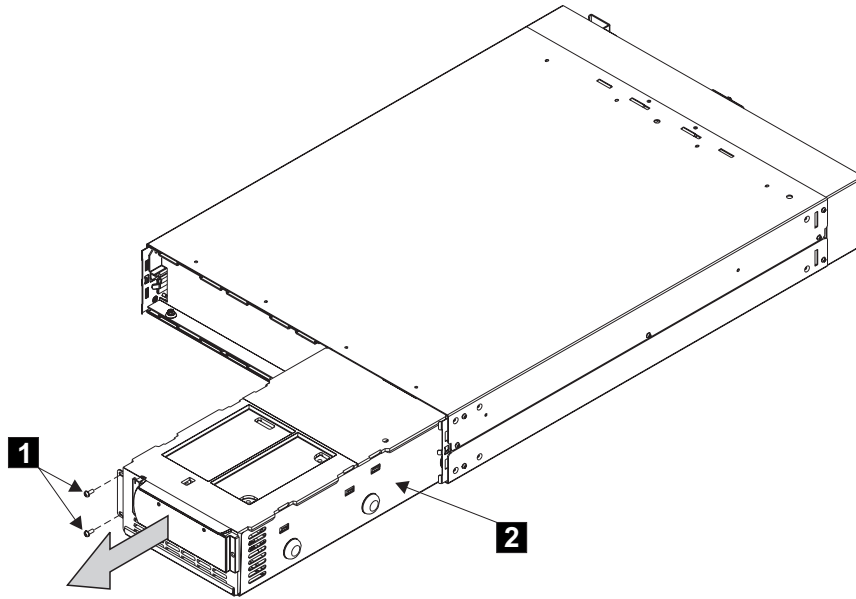

Figure 33. Removing the 2145 UPS electronics assembly
- 3. Remove the two screws **1** (Figure 33 on page 70).